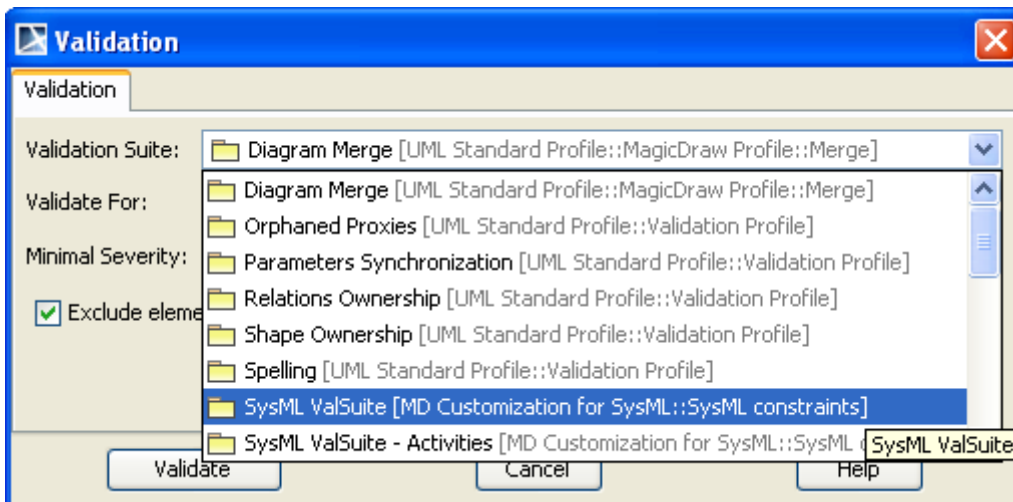

Figure 202 -- validation Suite Package Selection
2. The **Validation** dialog will open (Figure 202).
3. Select a validation suite, for example, **SysML ValSuite [MD Customization for SysML::SysML constraints]**, in the **Validation Suite** drop-down list to validate your model against a set of SysML constraints, in this example, all of them (Figure 202).